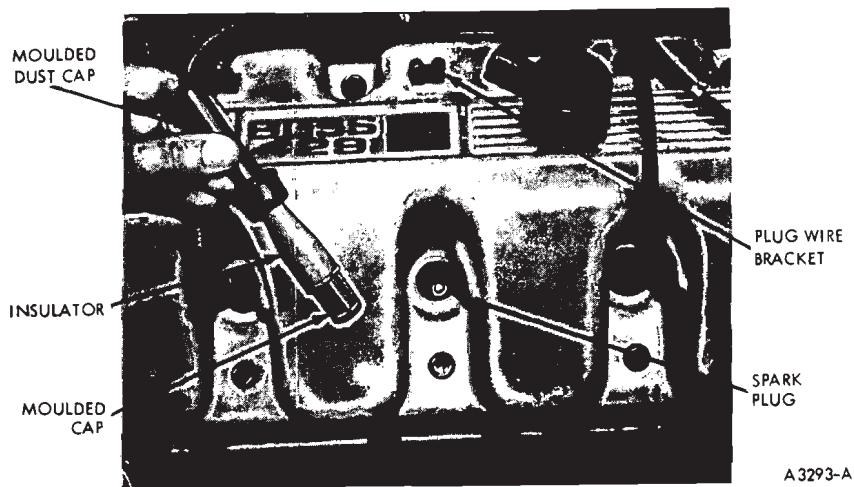

FIG. 2—Removing or Installing Spark Plug Wire
5. Lift each plug wire from the bracket (Fig. 2).
4. Connect each spark plug wire to its respective plug (Fig. 2). Insert the plug wires into the brackets on the valve cover.